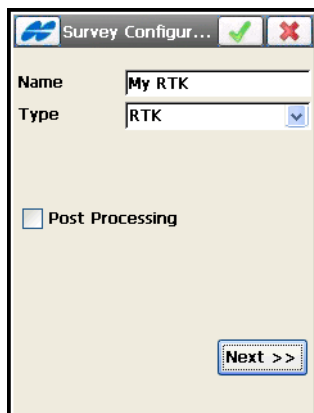

Figure 4-4. Configure an RTK Survey
- On the **Survey Configuration** screen, choose the configuration type (either *RTK*, *Network RTK*, *Real Time DGPS*, *Network DGPS*, *PP Static*, *PP Kinematic*, or *PP DGPS*) and enter the name of the configuration (Figure 4-4). Tap **Next**.